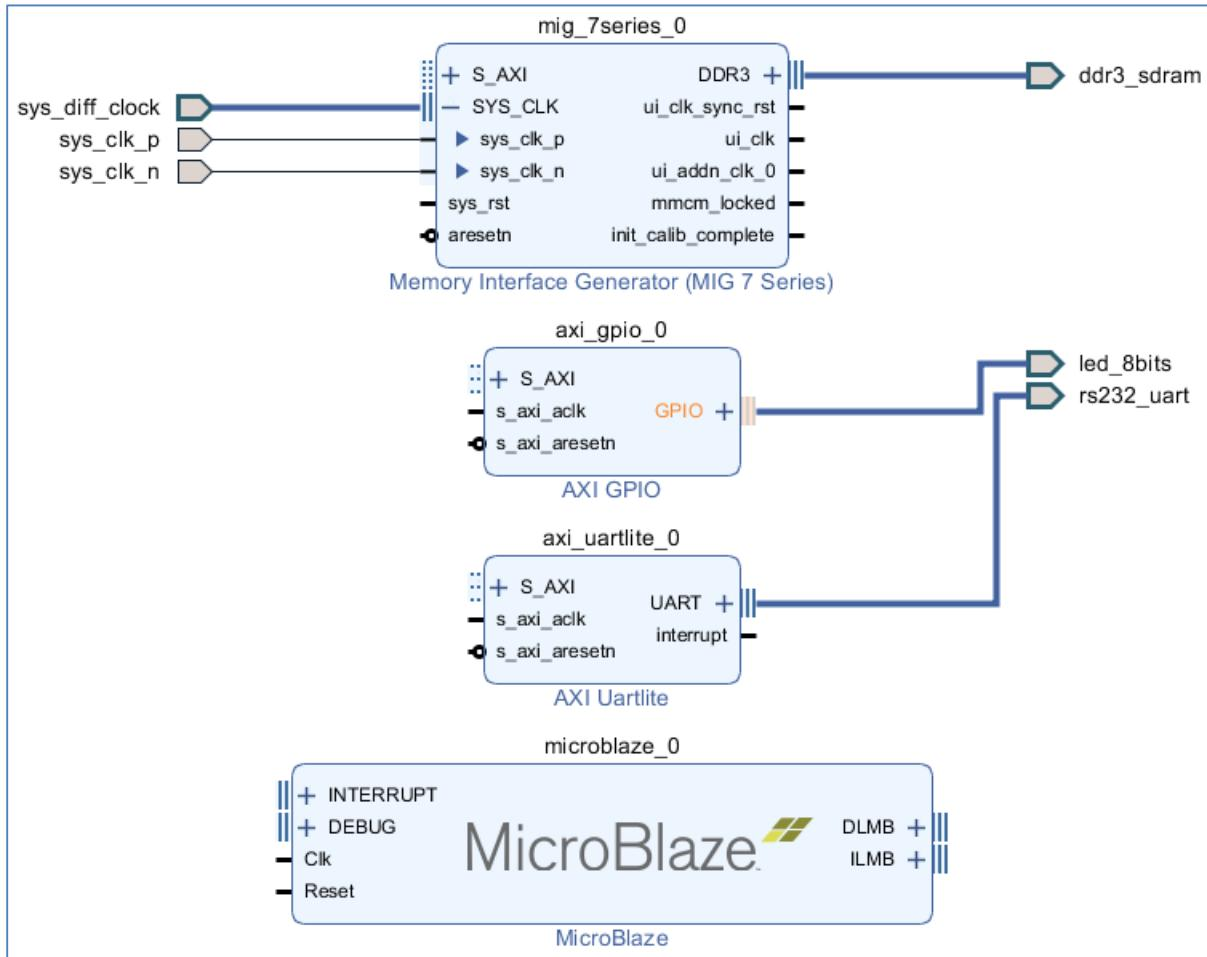

Figure 90: Block Design After Connecting the `rs232_uart` and the `led_8bits` Interfaces
9. The block design now should look like Figure 90.